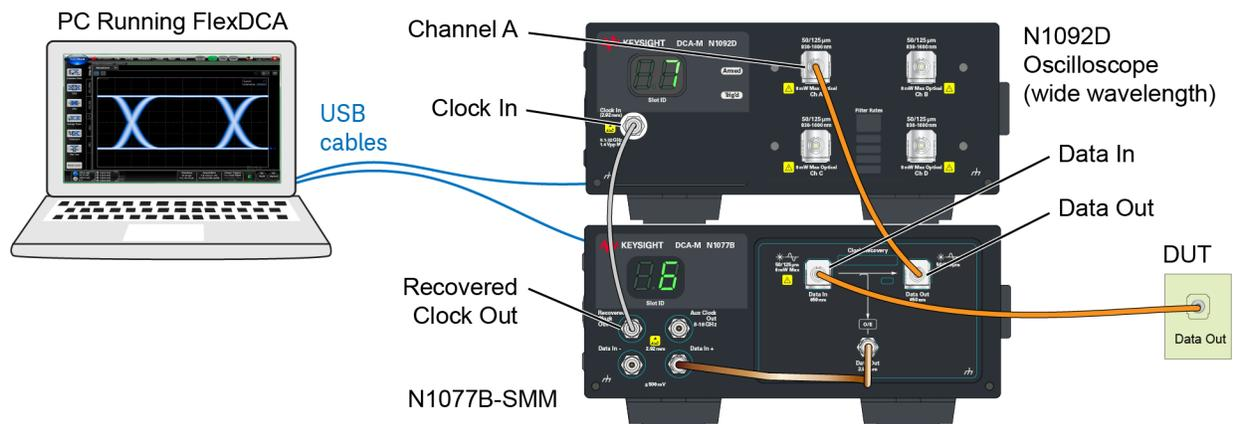

Figure 46. Typical Connection Setup
3. Connect the N1077B as shown in *Figure 46 on page 92*. If connecting to an N1000A (or 86100D), be sure to connect the USB cable to the DCA-X's rear-panel USB port. Notice that the N1077B has multimode optical connectors: